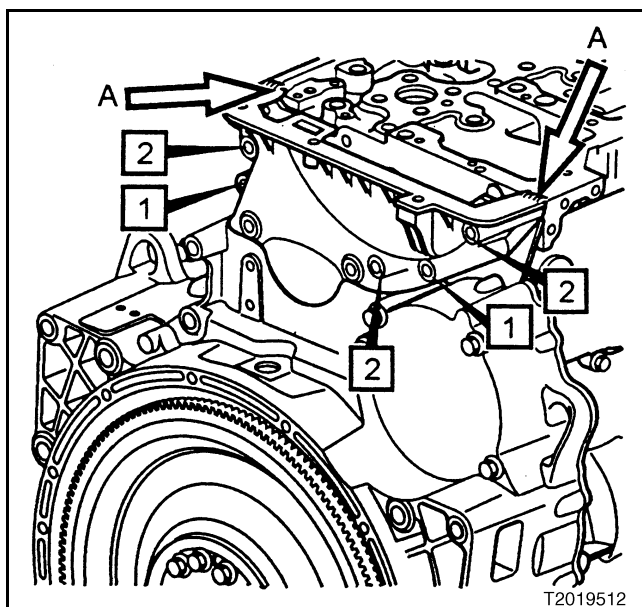

Figure 550 — Timing Gear Cover Installation
19. Place the timing gear cover in position on the engine. Install two capscrews (item 1 in Figure 550) and hand tighten.
20. Using alignment tools, 85111422A and 85111422B, ensure that the upper and lower seals are properly seated and that the upper surface of the cover is flush with the top of the cylinder head (points A in Figure 550).
21. Install the three remaining capscrews (item 2 in Figure 550) and tighten to specification.
23. Apply an even 2 mm (5/64 inch) bead of MACK-approved sealant at the joint lines (point A) between the cylinder head and the timing cover as Figure 550 indicates.